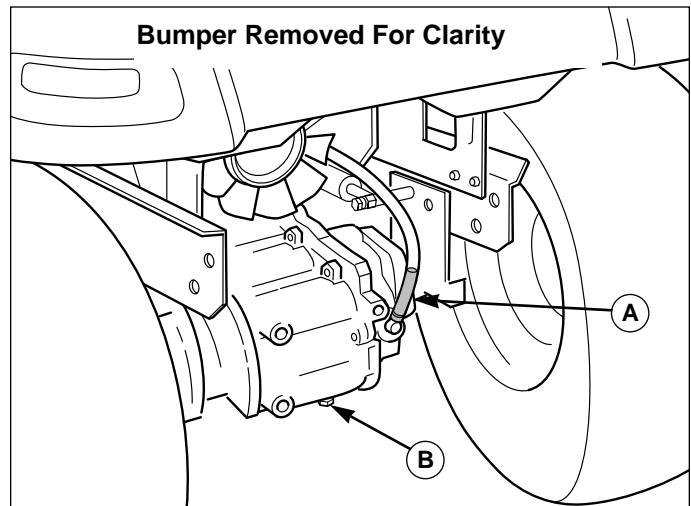

Figure 32. Transmission Fluid Check
13. Check the oil level. Observe the oil level in the plastic tube at the rear of the unit (see Figure 32).